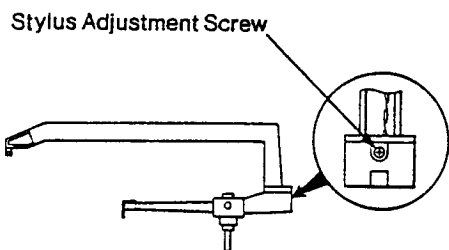

Fig. 2
4. Turn the stylus pressure adjustment screw as shown in Fig. 2 through the stylus pressure adjustment hole, so that the stylus pressure meter indicates 1.8 ~ 2.2 g.